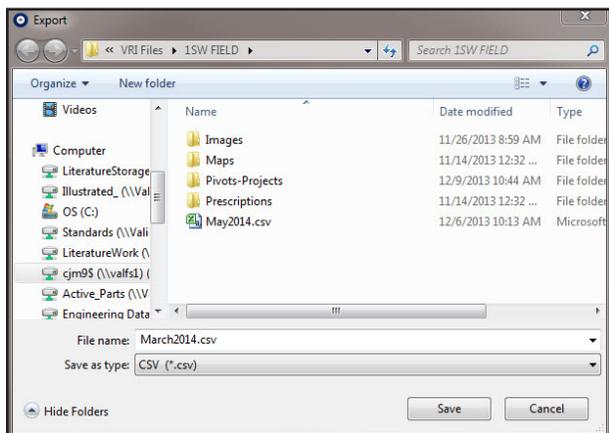

Figure 32-2 Folder Location
2. Locate the folder in which you want to store the CSV file, and click **Save**. (Refer to Figure 32-2.)